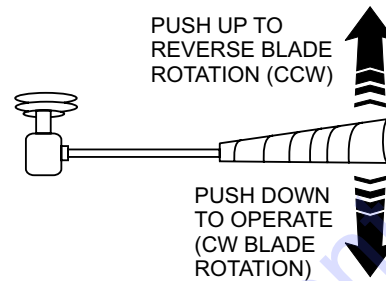
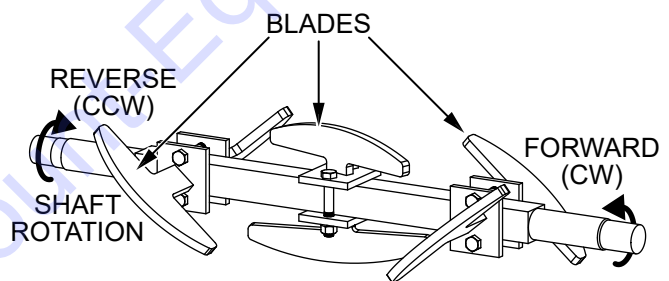

Figure 33. Hopper Remixer Control Lever
Figure 34. Hopper Remixer Blades (Rotation)
7. Push the **hopper remixer control lever** downward (Figure 33). The hopper remixer control lever is located to the left of the hydraulic temperature gauge.
8. Observe that the blades (Figure 34) inside the hopper are rotating in a clockwise (forward) direction. To make the blades rotate in a counterclockwise (reverse) direction, push the hopper remixer control lever (Figure 33) **upward**.